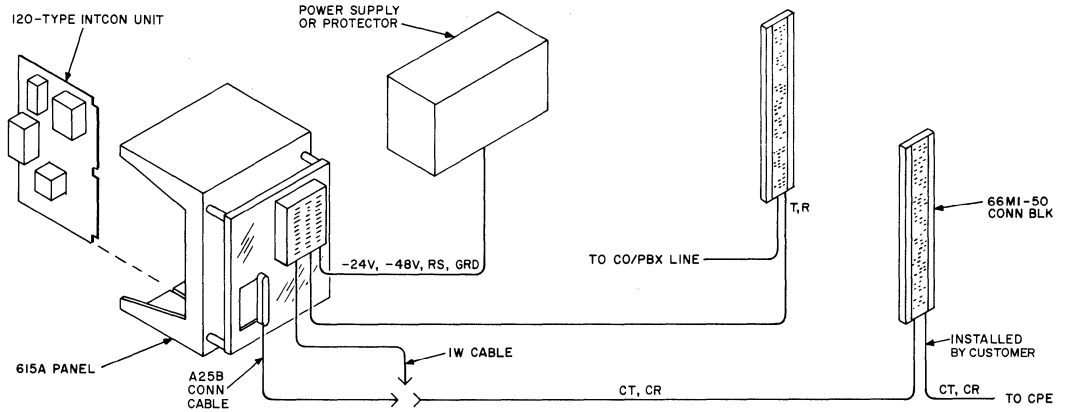

Fig. 4—Block Diagram, PCA STP or C2F Using 615A Panel
**3.07** Leads CT and CR are multiplied, both in plug P1 and in the 66T1 connecting block, so connections can be made by either of the following methods (Fig. 4):